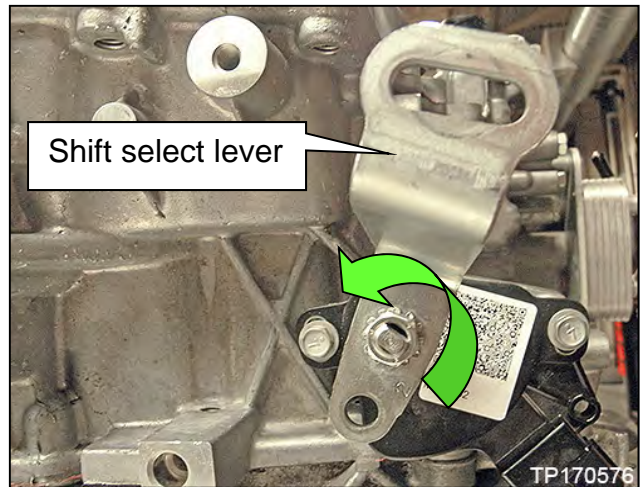
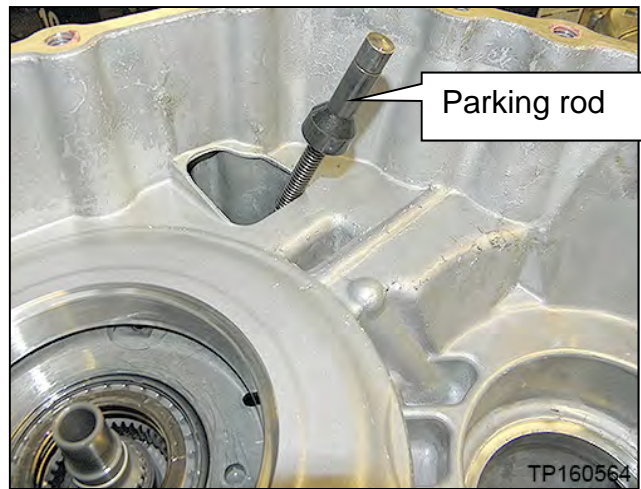

Figure 86
Figure 87
63. Rotate the shift select lever counter clockwise to the “L” range position (Figure 86), so that the parking rod is at its lowest position (Figure 87).